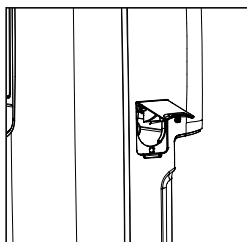
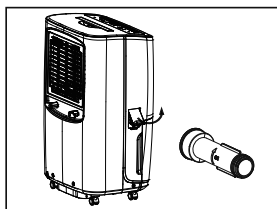

fig. 1
fig. 4
- a. Open the drain cover at the side of the unit, so the drainage connector could be found inside. (fig.1) Take out drainage adapter from the top of the styrofoam packaging. (fig.4)
The drainage adapter is just a helpful tool which facilitates the installation of dehumidifier drain hose (not supplied), however it is not necessary for the operation of the continuous drainage feature. You can still use this feature by inserting the dehumidifier drain hose through the side opening and connecting it to the outlet. (fig.1&2&3) It may be helpful to remove the bucket so you can see the connection better.